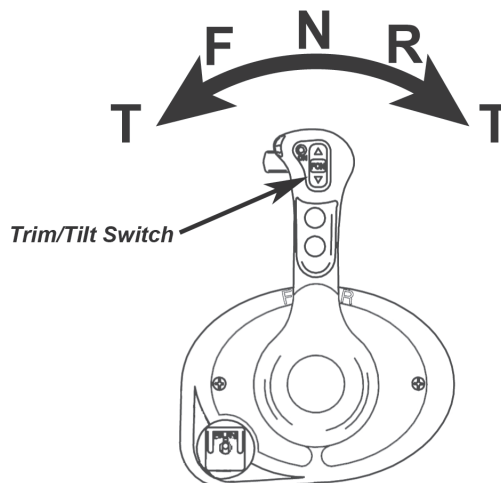

Figure A5: Shift/Throttle Control - Single Engine
1. Move shift/throttle lever(s) to the neutral idle position (N). Placing the shift/throttle levers in the neutral detent position will engage neutral start switch and allow engine to start. Refer to Figures A5 & A6.